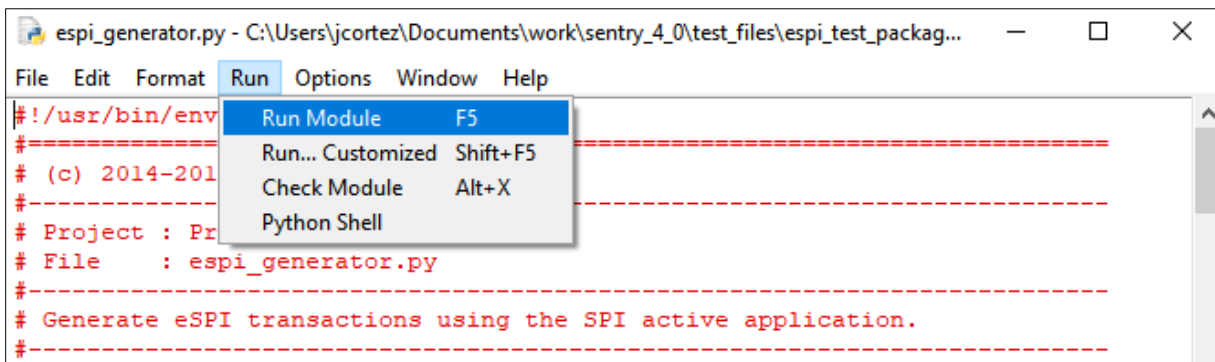

Figure 5.20. Running in IDLE Shell
- Click **Run** on IDLE Shell and select **Run Module** (Figure 5.20).